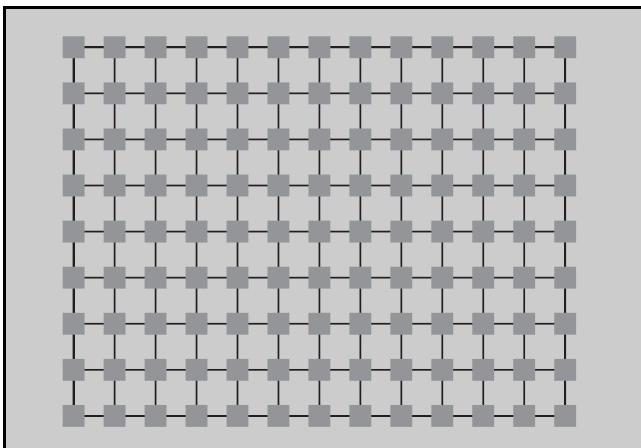

Figure 46. Point map
20. Adjust green convergence to overlap the cross hatch at adjustment points indicated in Figure 46.
29. Adjust red convergence to overlap the cross hatch at adjustment points indicated in Figure 46.
37. Adjust blue convergence to overlap the cross hatch at adjustment points indicated in Figure 46.